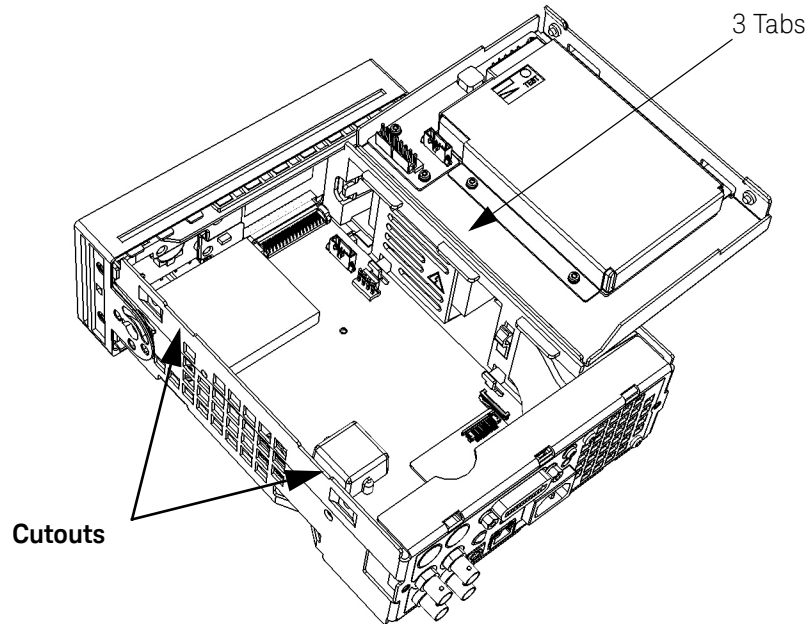

Figure 4-6 Battery assembly held by three small tabs
- 9 Move the whole assembly from the three small tabs and insert the three large tabs on the plastic AC power supply cover into the three slots on the battery assembly deck shown in Figure 4-6.